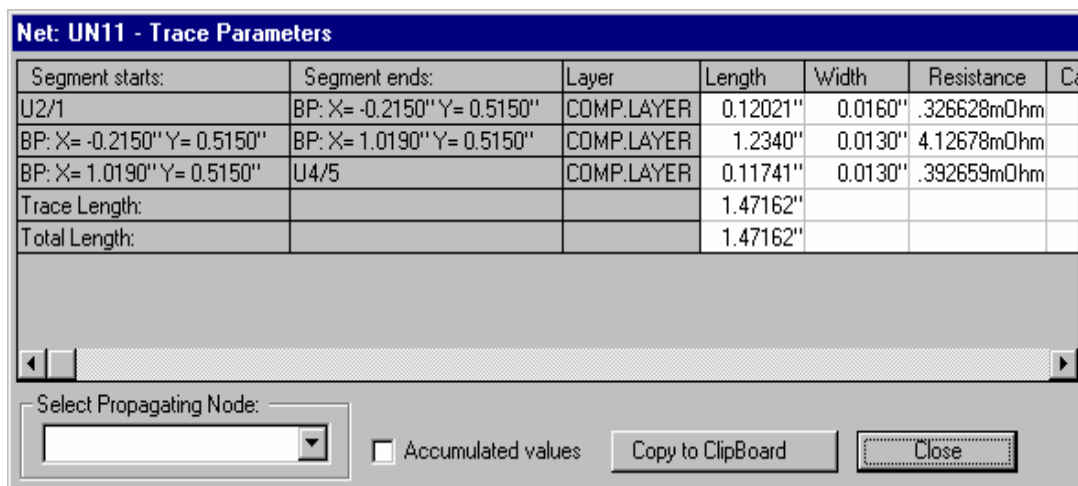

Fig. 9.6
6. View the electrical parameters of the trace from point to point using the VIEW TRACES button (Refer Fig. 9.6).